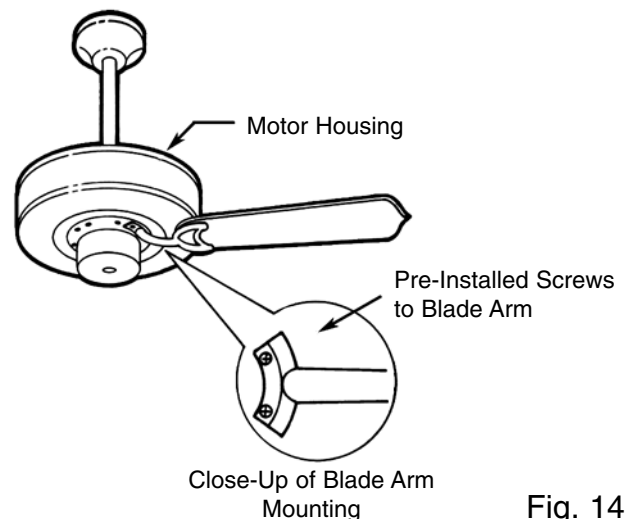

Fig. 14
- ❖ Select the correct mounting pattern and attach each blade to the motor face using pre-installed screws (see figure 14). Take care not to bend the blade arms during installation. This will cause your fan to wobble while running.